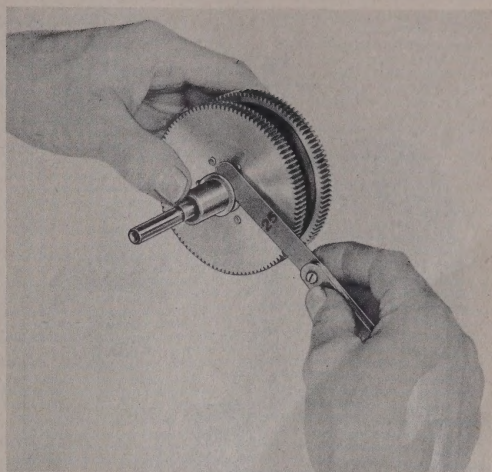

Figure 346 — Measuring End Play to Determine Spacer Thickness
(d) (See figure 337.) Slip the differential shaft front bearing spacer (5) on the front end of the shaft, and the spacer collar (12) on the rear end of the shaft. Holding these *tightly* against the shoulders of the shaft, as shown in figure 346, measure with a thickness gage the end play of the gear assemblies on the shaft; that is, the space between the front bearing spacer and the front gear, and the space between the rear spacer collar and the rear gear. Then insert a spacer washer (6) having a thickness of approximately .002 inch less than the measured end play between the front gear (7) and bearing spacer (5), and the rear gear (18) and spacer collar (12). Check end play of each gear to be sure it now falls within the limits of .001 to .003 inch.